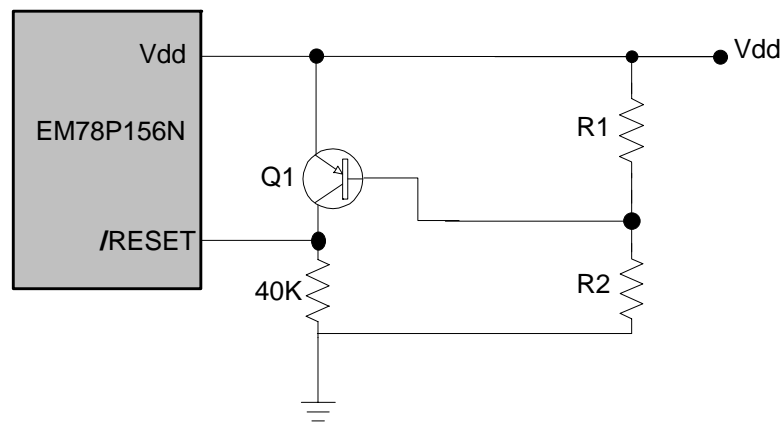

Fig. 16 Circuit 2 for the Residue Voltage Protection
The circuit shown in Fig.16 implements an external RC to produce the reset pulse. The pulse width (time constant) should be kept long enough for V_{dd} to reach minimum operation voltage. This circuit is used when the power supply has slow rise time. Because the current leakage from the /RESET pin is about $\pm 5\mu\text{A}$, it is recommended that R should not be greater than 40 K. In this way, the /RESET pin voltage is held below 0.2V. The diode (D) acts as a short circuit at the moment of power down. The capacitor C will discharge rapidly and fully. R_{in}, the current-limited resistor, will prevent high current or ESD (electrostatic discharge) from flowing to pin /RESET.